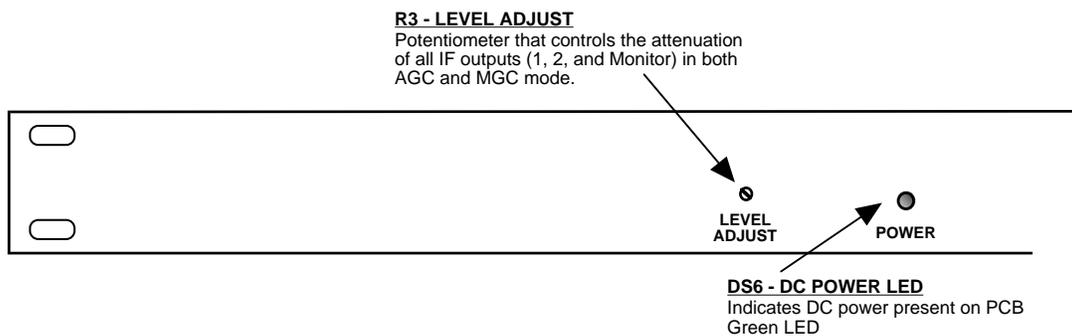

FIGURE 2.3 1200-75 Front Panel Controls and Indicators
Figure 2.3 shows the front panel outputs, controls and indicators.
3. Be sure the POWER LED, DS6, is on (Figure 2.3).
8. Adjust output to desired level using front panel attenuator pot, R3 (Figure 2.3).